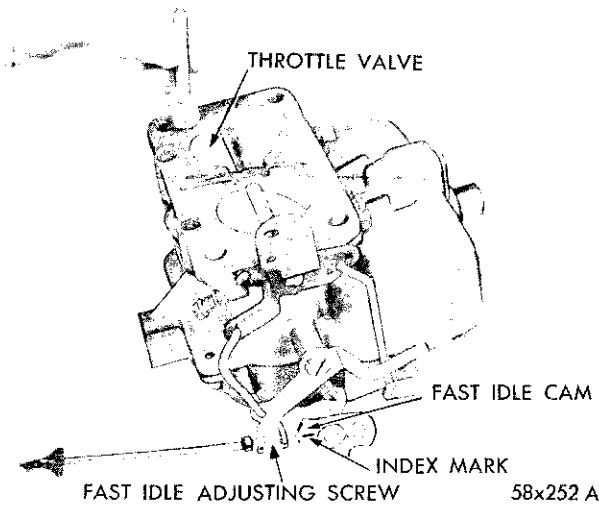
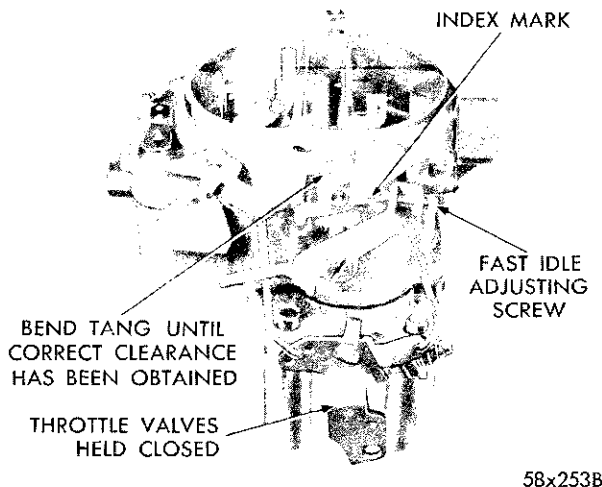

Fig. 16—Checking Fast Idle Setting
Fig. 17—Fast Idle Index Mark Aligned
(2) Hold in this position, and invert the carburetor. Slide wire gauge Tool T109-44 .015" between the throttle valves and the bore (side opposite ports). Tighten the fast idle adjusting screw until a slight drag is felt as gauge is being withdrawn, as shown in Figure 16.
(3) Again, invert the carburetor and open the valves to wide open position. Close the throttle valves and the choke valve tightly.
(4) Release the choke valve only. This again positions the fast idle cam to fast idle. The index mark on the cam should split the center of the fast idle screw shank, as shown in Figure 17.